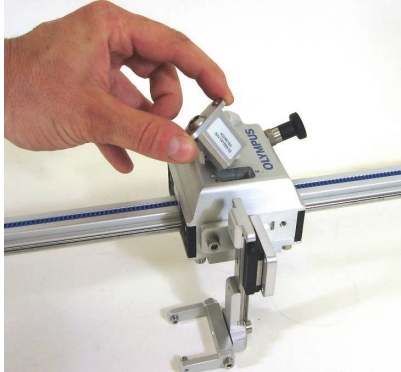

Figure 2-32 Removing the encoder
2. Remove the encoder (see Figure 2-32 on page 48), and then replace it with the new encoder, repeating the steps in reverse order.